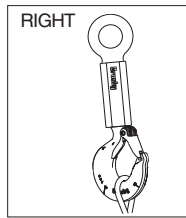

Figure 3
- When placing two (2) sling legs in hooks, make sure the angle between the legs is less the 90° and if the hook or load is tilted, nothing bears against the bottom of this latch (See Figures 3 & 4).